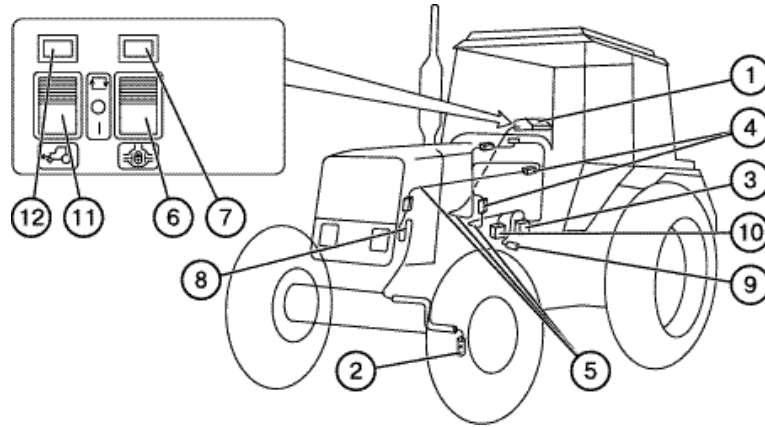

Fig. E-18. Rear axle differential lock and FDA drive control system:
The **electro-hydraulic DL control system** of the rear axle (Fig. E-18) is composed of a panel (1), turning angle sensor (2) of steering wheels; installed on the left-hand FDA reduction gear, DL control electro-hydraulic distributor (3) located on the right-hand GB cover and coupled through an oil pipeline with the DL clutch, and connecting cables (5) with terminal blocks (4). The system is supplied with power from the on-board electrical circuit via a safety fuse in the fuse box installed in the dashboard. The system is powered after starting the engine. The key (6) for controlling the DL control and DL indicator lamp (7) are installed on the panel (1) face. The latter is located over the right-hand side tractor control panel.